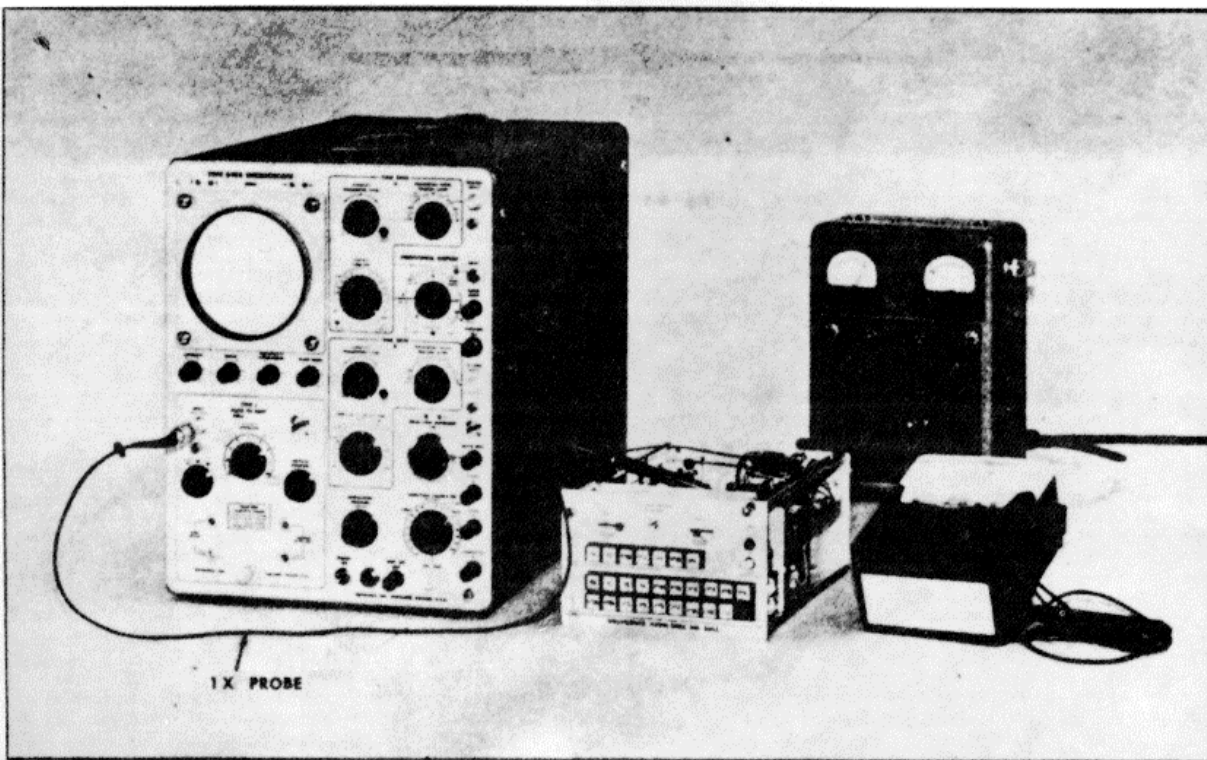

Fig. 6-3. Initial test equipment set-up to check and adjust voltages.
- a. Test equipment setup is shown in Fig. 6-3.